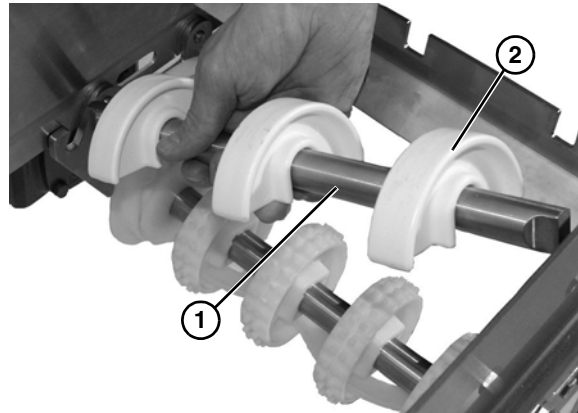

Figure 29
4. Remove belt return (**Figure 29, item 1**).
5. Remove and replace belt return shoes if worn (**Figure 29, item 2**).